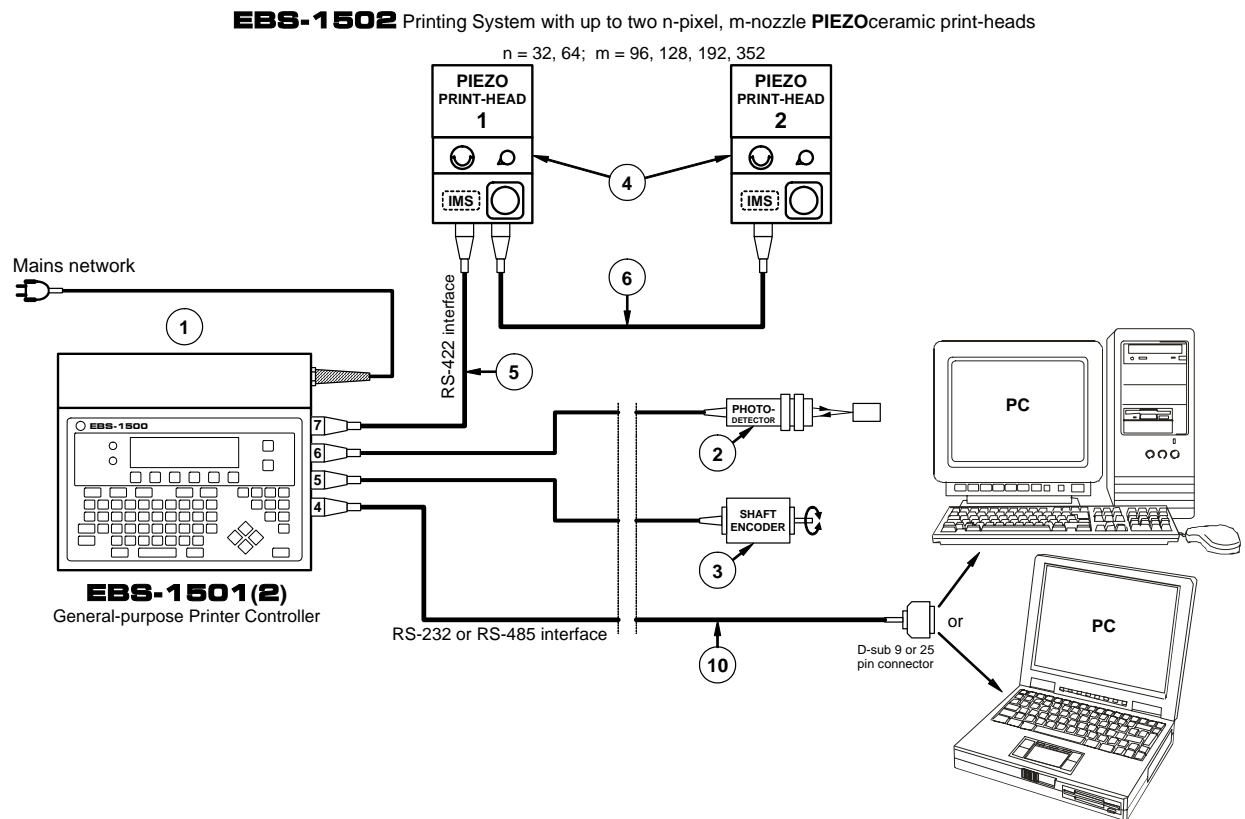

Fig. 4.2.7. Connection diagram for a printing system with two piezoceramic print-heads
- The two-head printing system shown in **Fig. 4.2.7** is an illustration of how to connect the system elements. The system will work properly only when the requirements presented in section **4.1 Restrictions on Printing System Configuration** are satisfied and when it is designed in compliance with the guidelines given in section **4.7 Rules for designing a multi-head printing system**.
- The system shown in **Fig. 4.2.7** can work properly only with an **EBS-1506** or **EBS-1501(2)** controller equipped with a **PGDU4** card (for more details refer to section **4.1.4**)!!! Otherwise the controller may get damaged !!!